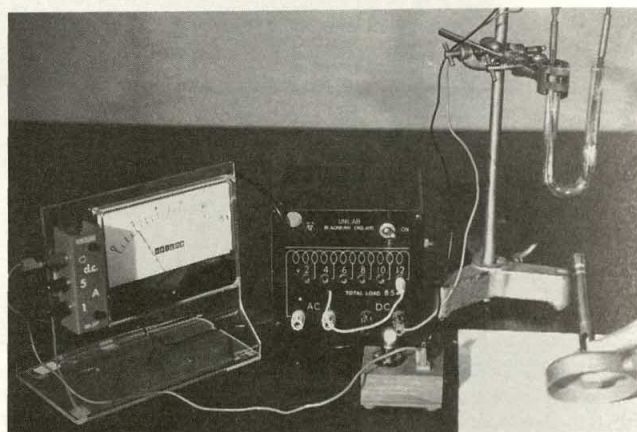

Figure 4.27
The apparatus shown in figure 4.27 is being used to investigate the electrolysis of lead(II) bromide. Lead(II) bromide is a white powder which does not conduct electricity. The bulb does not light until the lead(II) bromide melts. This is true of all compounds of a metal with a non-metal; they do not conduct electricity when they are solid.
27 Draw and label a line diagram of the apparatus shown in figure 4.27. (See table 7 in the Data section).